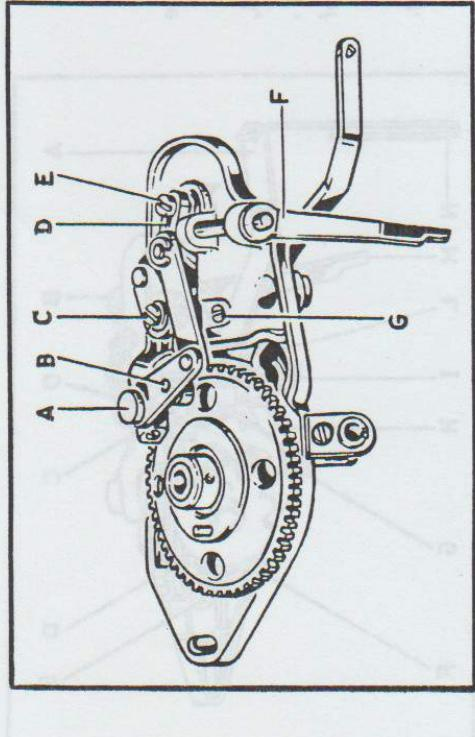
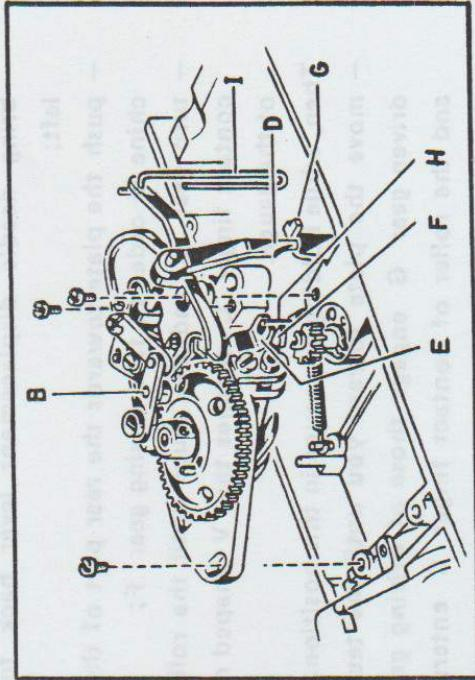

Fig. 41
Fig. 42
- loosen grub screw G (fig. 41);
- tighten grub screw G (fig. 41) eliminating the end play and leaving the contact fingers free to move;
- loosen the grub screw of pin A (fig. 41) and take off the pin itself from its housing;
- remove screw C (fig. 41) and contact finger B with its roller.
- Position contact finger B (fig. 41) on the plate and on the small plate of the fork;
- 1) fork E (fig. 42) engaged on pin H, integral with the needle bar positioning lever;
with a finger, engage pulling rod I (fig. 42) on the stitch regulating lever.
- While keeping, by means of a screwdriver, lever D (fig. 42) against lever G, bring contact finger D (fig. 41) near the cam;